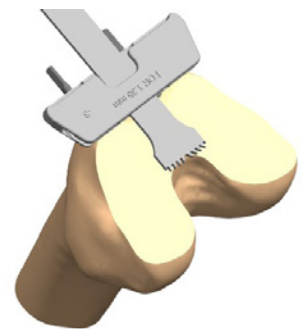

Figure 10
- Resect the distal femur (Figure 10) then remove the distal femoral cutting block.